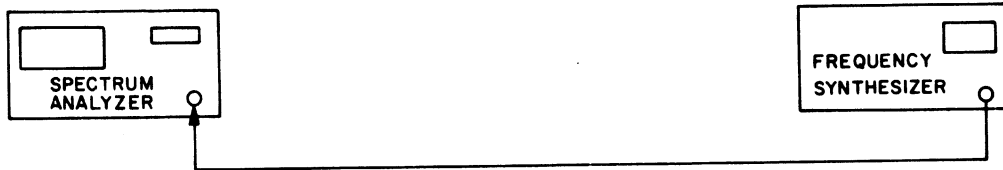

Figure 4-6. Scan Width Accuracy Test Set-Up
9. Connect the test equipment as shown in Figure 4-6.